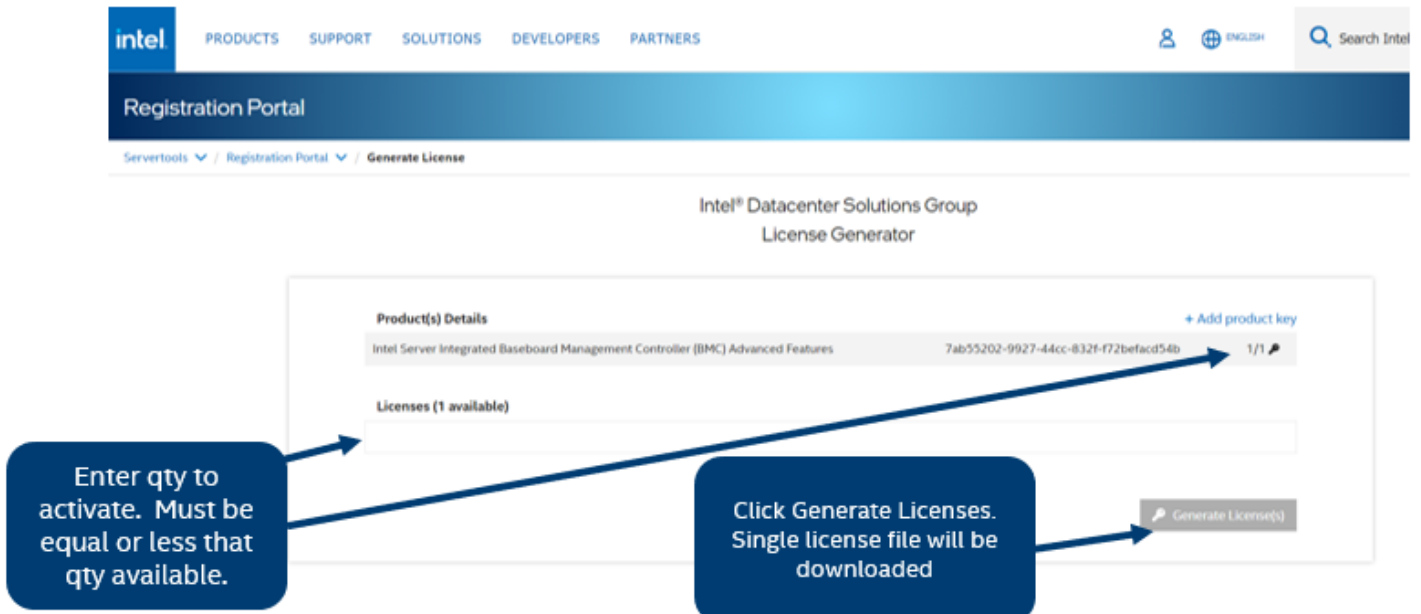

Figure 143. Generate License
6. Enter the number of Advanced System Management (ASM) licenses needed. It must be equal or less than the quantity available displayed in the right corner of the screen. Click on the “Generate License(s)” button to generate and download the single license file. (see Figure 143)